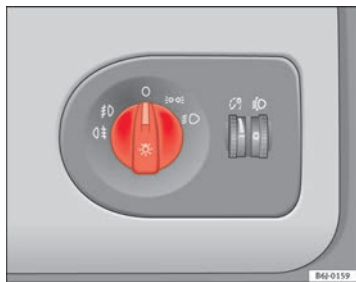

Fig. 51 Detailed view of dash panel: lights, fog light and rear fog light control
- Turn the light switch \Rightarrow fig. 51 to position ☞ .